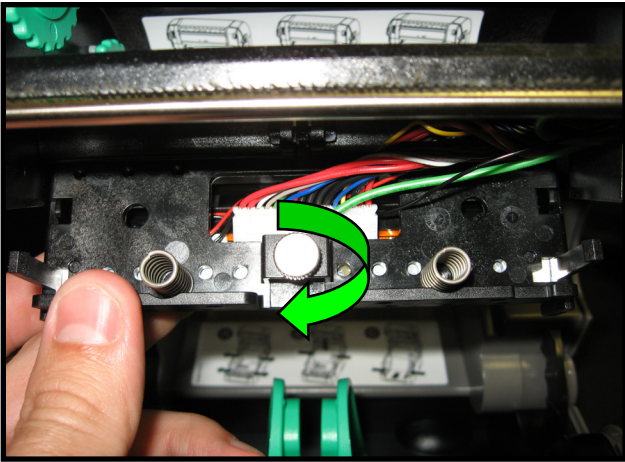

Figure 19
19.) Tighten the printhead screw until the printhead is fully seated (Fig 19)